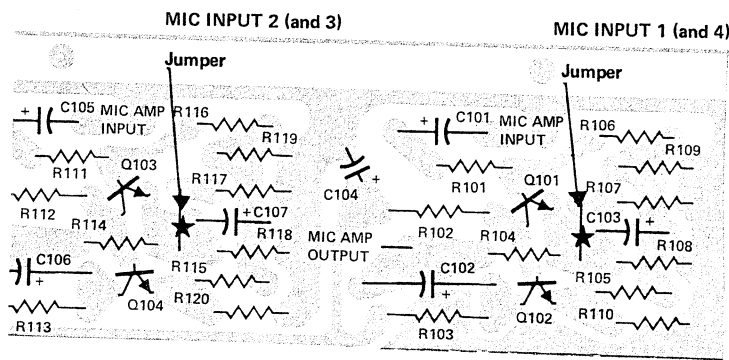

FIG. 7-1 MIC STAGE JUMPERS
5. Mic gain may be semipermanently altered by means of jumpers on the main boards (see fig. 7-1). Removal of the jumpers lowers the gain by 20dB and increases the maximum input level. If overload is a problem remove the jumpers.
The microphone inputs stages are designed to accommodate a wide range of input levels. A dual gain feature is employed so that the operator may select the amount of gain to suit his particular needs. (See fig. 7-1 and Note 5 in section 7.1.3).